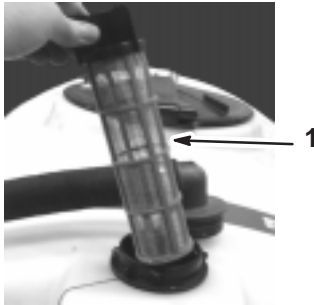

Figure 55
4. Pull the strainer out of the hole (Fig. 55).